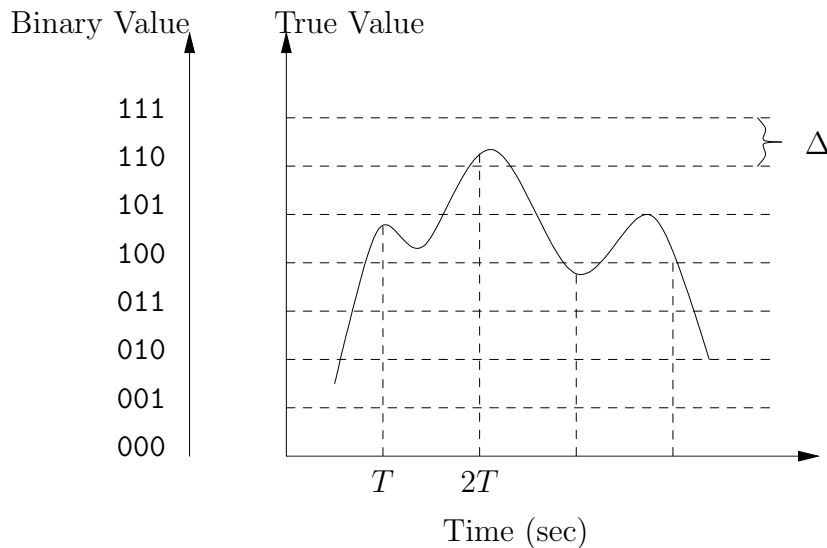

Figure 1: Sampling and digitizing of a continuous signal
Figure 1 is an example of sampling and digitizing of a continuous signal. First, the signal value is captured at a fixed point in time, then this value will be approximated to the closest digital level available. In this case, each value is represented using only 3 bits and therefore there is only 8 different digital values as opposed to the infinite values that can be represented by the continuous signal.
1. If your ADC is 8-bits, how many digital levels do you have? What is the resolution of this ADC if it operates in the range of 0-5V, e.g. looking at Figure 1, what is Δ in volts?. If the input is 2.5V, what is the output?